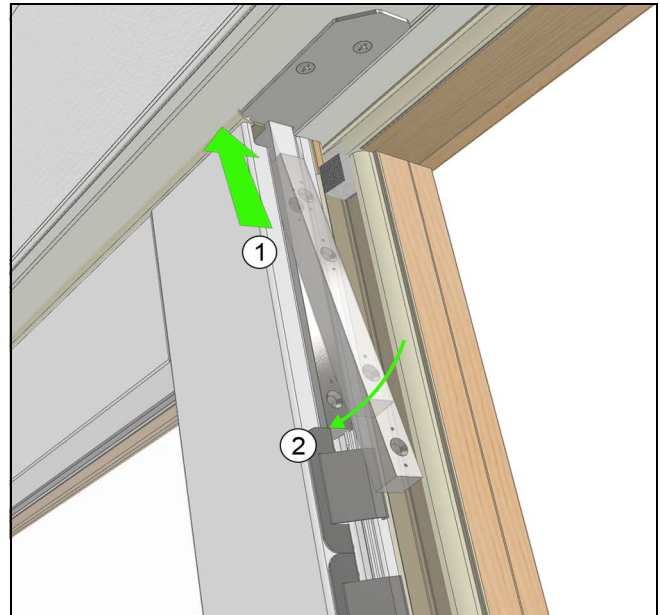

Figure 11
3. Seat the lock bar into the panel Eurogroove and up into the head jamb strike aligning top hole on lock bar to the removed screw hole already in the panel. See Figure 11. Be mindful not to overshoot the bolt as this will cause the head jamb to bow upward.